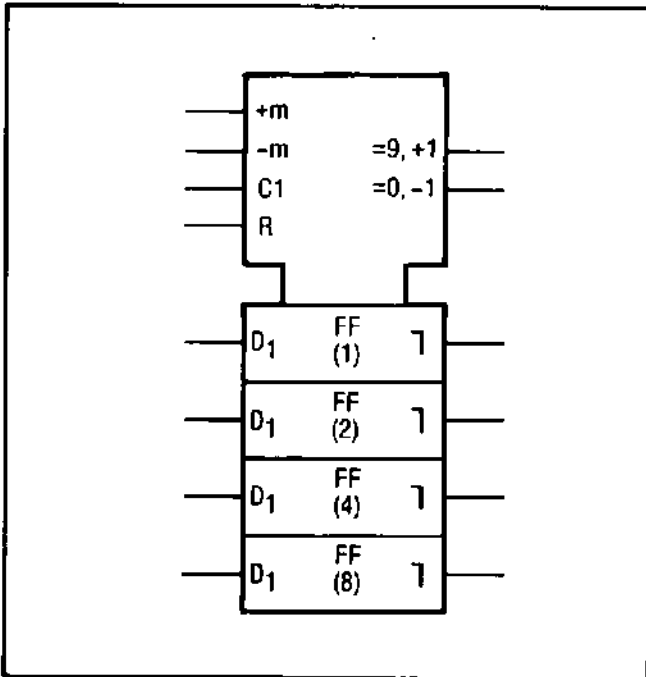

Figure 8-16. UP-DOWN Counter
**UP-DOWN Counter.** The counter control block shows common inputs to a Presettable Decade UP-DOWN Counter (see Figure 8-16). Notice that "+m" means count up (increment the count) by "m"; "-m" means count down by "m." Note: if m=1, then "m" may be omitted. Since the D-type flip-flops are master-slave, the output delay indicator is used. The "=9, +1" and "=0, -1" notation defines when the carry and borrow outputs are generated. They also define it as a decade counter; a binary counter would have the carry indicated with "=15, +1." Flip-flop weighting is indicated in parentheses. Input "C1" allows all four "D1" flip-flops to be preset in parallel.